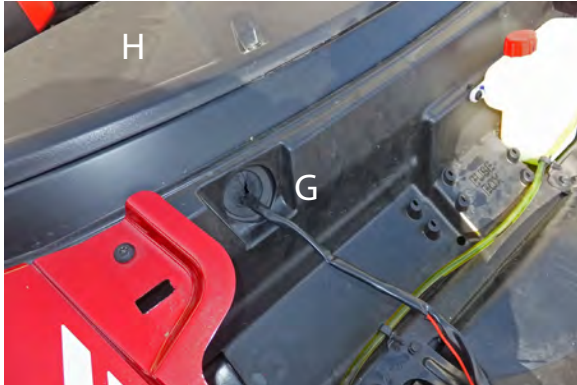

Figure 13.
15. Route switch wiring behind front dash and through a wiring grommet located behind the glove box. See grommet (G) located in **Figure 13**. You may remove the top access panel (H) to aid in routing and securing wiring.